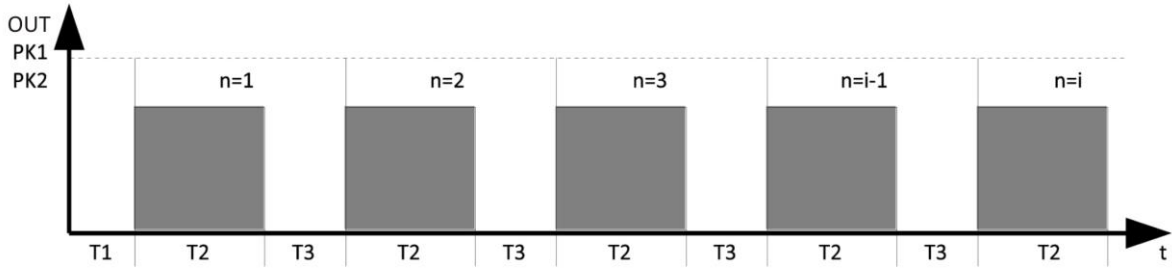

Fig. 6.7.1 OUT, PK1 and PK2 time control
- 1) It is possible to programme any number of controlling impulses with the T2 and T3 characteristic times (fig. 6.7.1).
- 6) In the event of programming the zone from the reached fire position of a given MGL-60 module output, it is also required to programme the limiting switches monitoring in a given MGL module (Table 6.2 pos. 15). Otherwise the UCS control panel reports a fault.